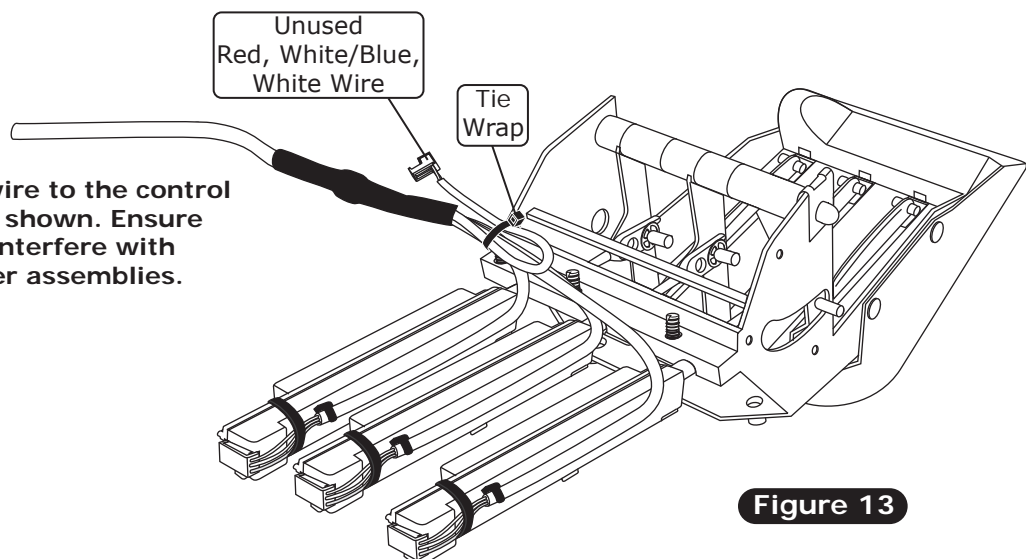

Figure 13
1. Using the supplied tie wraps, tie the wires to the control panel as shown in Figure 13, below. Confirm the wires are secured and do not interfere with lever operation or the cable converter assemblies.